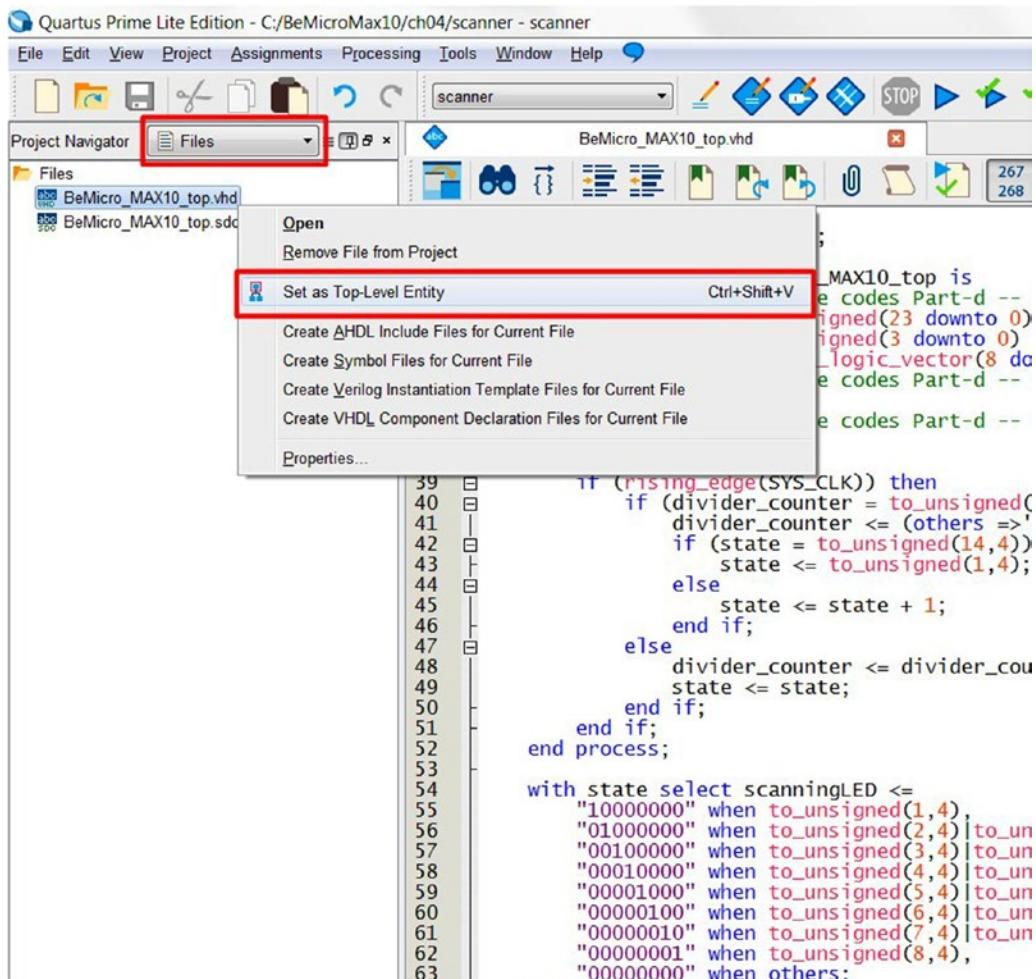

Figure 4-23. Setting top-level entity
2. Right-click the `BeMicro_MAX10_top.vhd` file and click **Set as Top-Level Entity** from the context menu (Figure 4-23). This step is very important to ensure that Quartus Prime picks the right entity (vhdl file) as the top-level file. This is because Quartus Prime will start to implement the design from the top-level entity. Sometimes people refer to this as the *top module*—the top of the design hierarchy, where submodules are instantiated and linked together (conceptually similar to the main function in a C program).